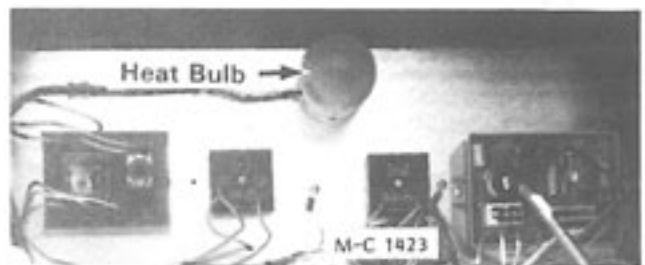

Figure 26
1. The heat bulb in the upper control cabinet, Figure 26, will always be on when the electric power supply to the dryer is on. It does not have an ON-OFF switch.